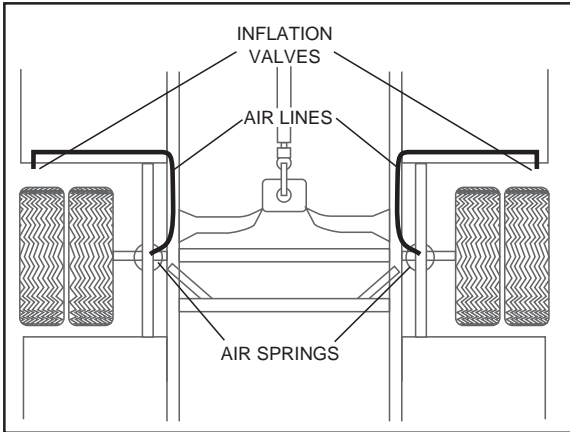

Figure 5
1. Choose a convenient location for mounting the inflation valves (Figure 5). Popular locations for the inflation valve are:
6. Route the air line along the frame to the air fitting on the air spring (Figure 5). Keep at least 6" of clearance between the air line and heat sources, such as the exhaust pipes, muffler, or catalytic converter. Avoid sharp bends and edges. Use the plastic zip ties (BB) to secure the air line to fixed, non-moving points along the chassis. Be sure that the zip ties are tight, but do not pinch the air line. Leave at least 2" of slack to allow for any movement that might pull on the air line.